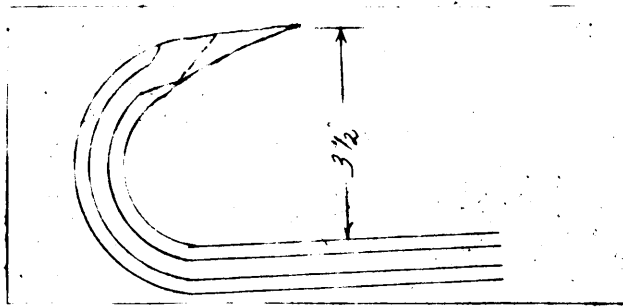

Figure 4.
5. Bend the split end to the shape shown in Figure 4. Leave  $3\frac{1}{2}$ " between the end and the other part of the bar. (Figure 4). This  $3\frac{1}{2}$ " is sufficient for this particular bar but the width may vary with individual bars.